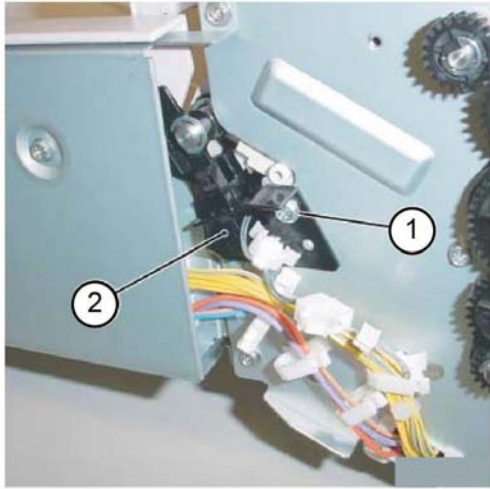

Figure 2 Set clamp home sensor assembly removal
4. Remove the set clamp home sensor assembly, **Figure 2**:
- a. Remove the screw (1).
- b. Remove the set clamp home sensor assembly (2).